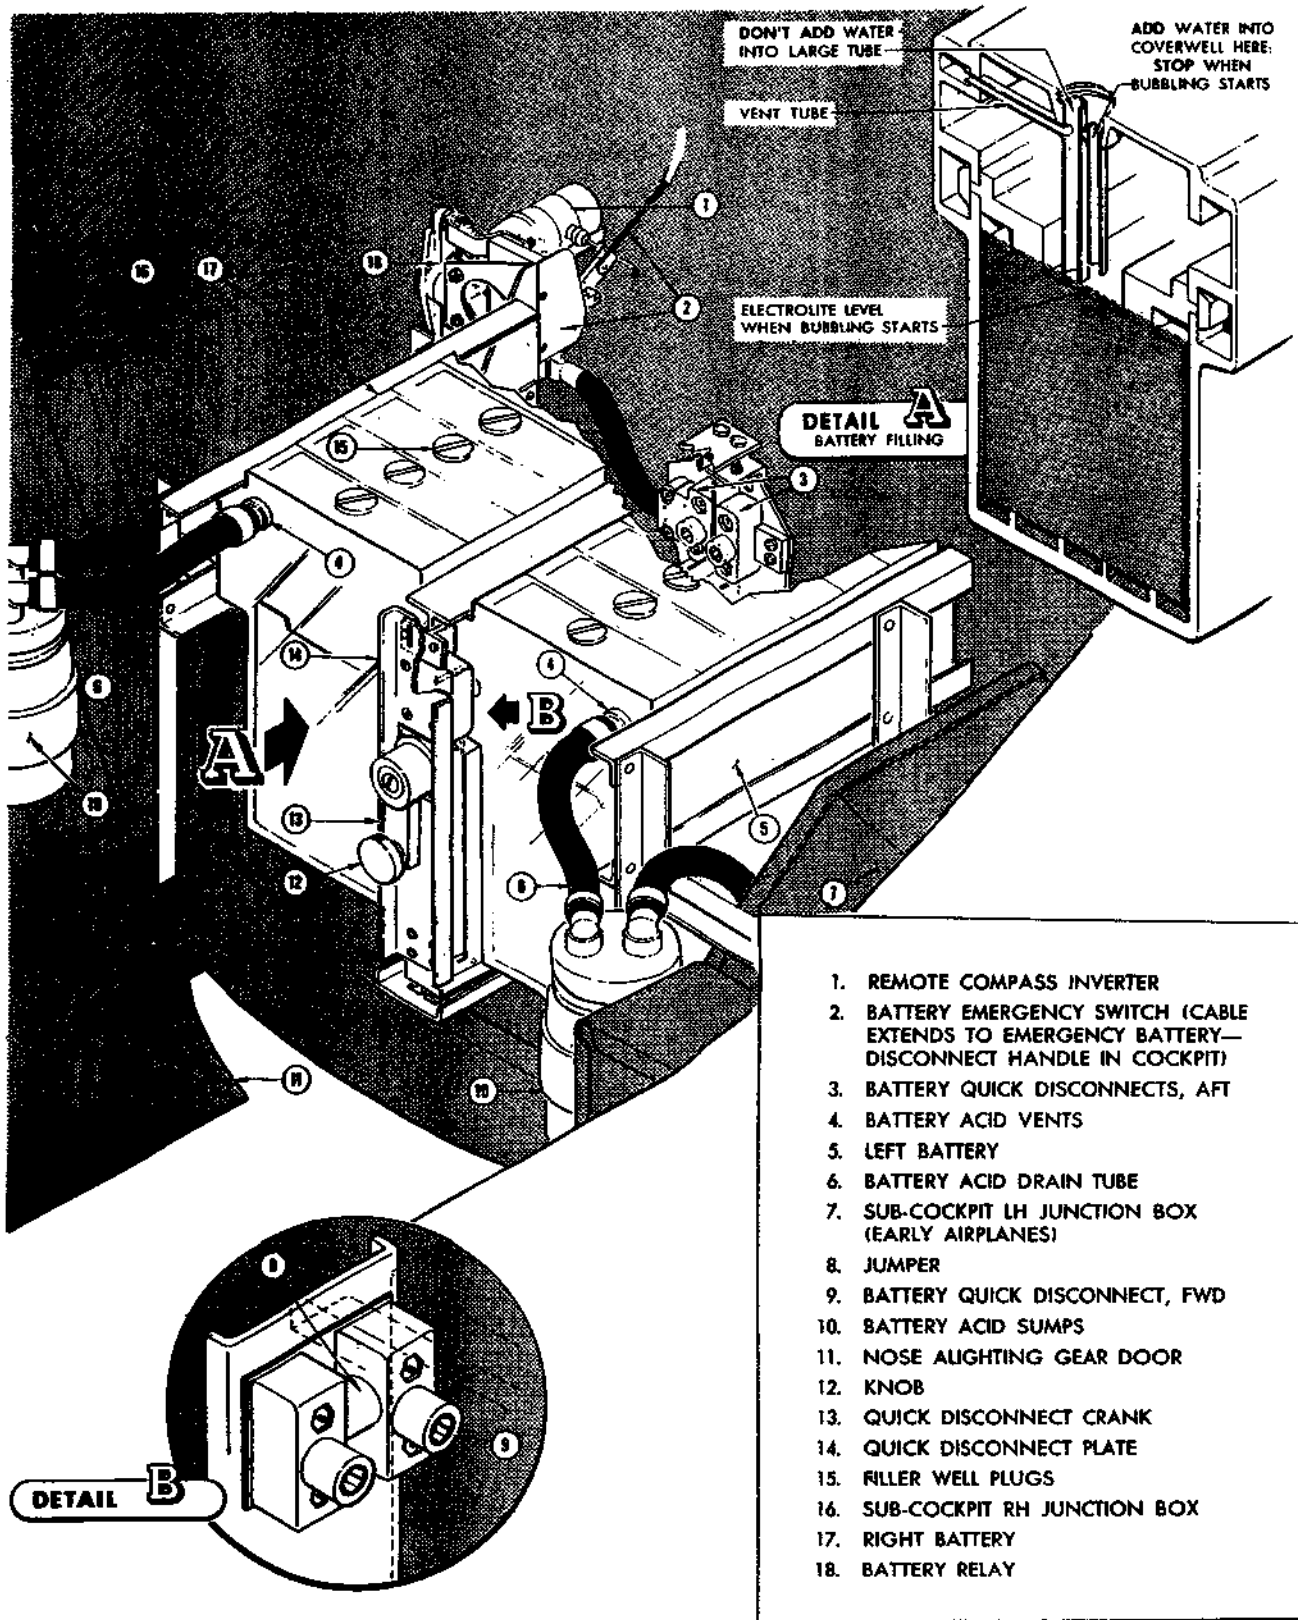

Figure 188 — Battery Filling and Installation
(5) BATTERY. (See figure 188.)
(6) BATTERY EMERGENCY SWITCH. (See figure 188.)—The battery emergency switch is mounted on the battery support at the upper aft end. This switch is operated through a flexible cable by a handle on the floor to the right of the pilot's seat, and when operated, it disconnects the battery from all circuits. (See figure 246, sheets 3 and 4.) The handle is safety wired and is not to be operated by the pilot except in emergency, since it